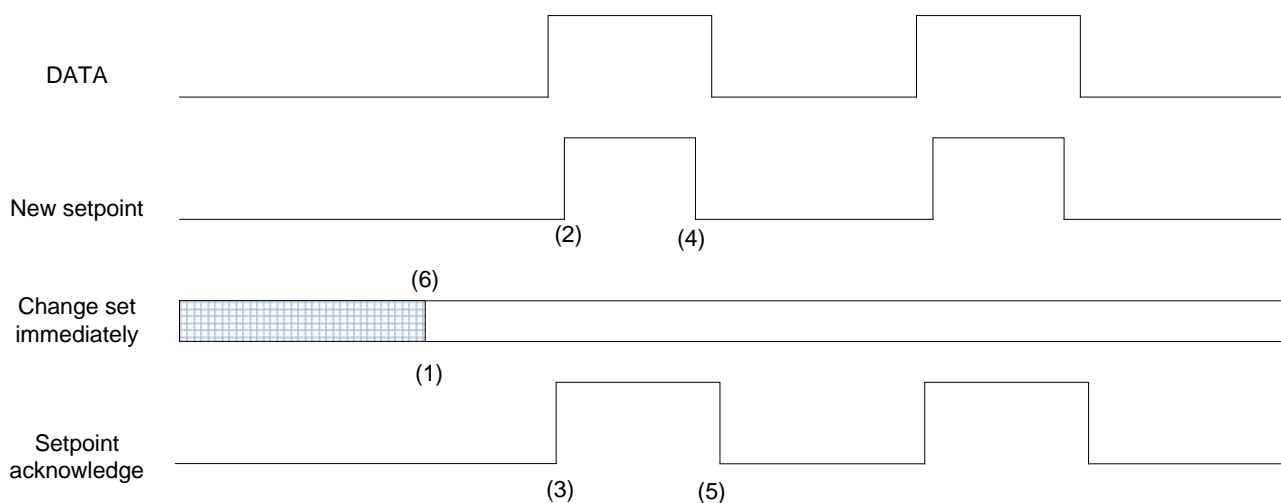
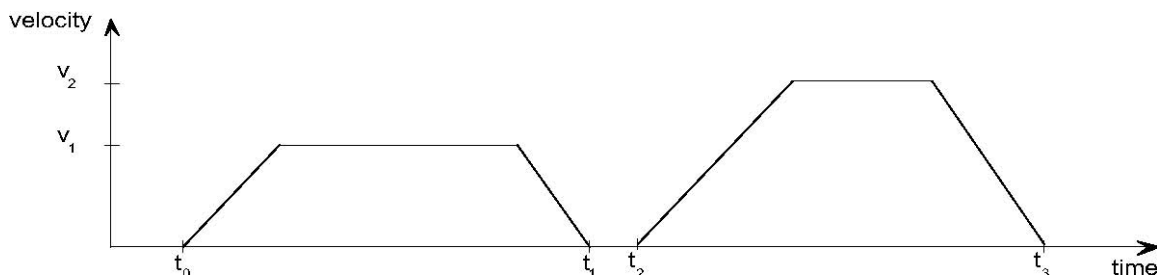

Figure 17: Set-point transmission from a host computer
Figure 18: Single set-point
Figure 17, Figure 18 and Figure 19 show the difference between the "set of set-points" mode and the "single set-point" mode. The initial status of the bit 'change set immediately' in the *controlword* determines which mode is used. To keep simple these examples, only trapezoidal moves are used.
If the bit 'change set immediately' is "0" (continuously drawn line in Figure 17) a single set-point is expected by the drive (1). After data is applied to the drive, a host signals that the data is valid by changing the bit 'new set-point' to "1" in the *controlword* (2). The drive responds with 'set-point acknowledge' set to "1" in the *statusword* (3) after it recognized and buffered the new valid data. Now the host may release 'new set-point' (4) and afterwards the drive signals with 'set-point acknowledge' equal "0" its ability to accept new data again (5). In Figure 18 this mechanism results in a velocity of zero after ramping down in order to reach a *target position*  $x_1$  at  $t_1$ . After signaling to the host, that the set-point is reached like described above, the next *target position*  $x_2$  is processed at  $t_2$  and reached at  $t_3$ .
If the bit 'change set immediately' is "1" (dashed line in Figure 17) the new target position will be active immediately. In Figure 19 the drive receives the first *target position* at  $t_0$ . At the time point  $t_1$  the drive receives a second *target position*. The drive readapts the actual move to the new target position immediately.